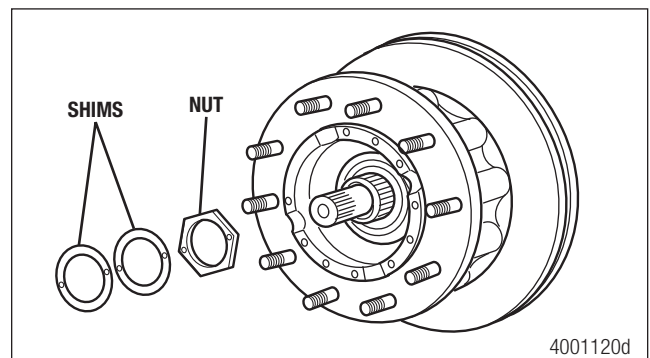
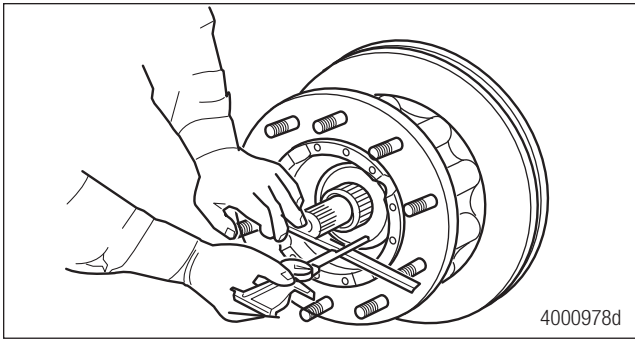
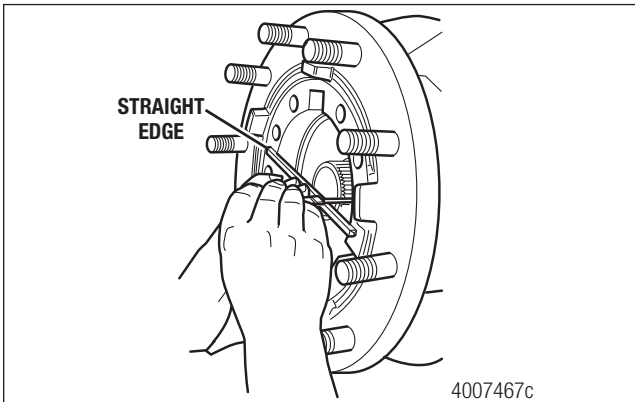

Figure 13.20
Figure 13.21
Figure 13.22
6. Install the appropriate shims to achieve the 2.168-2.173" (55.066-55.194 mm) dimension from the shim pack to the face of the hub. Place a straight edge across the hub and measure using a depth gauge micrometer. The depth measurement reading should be reduced by the thickness of the straight edge. Figure 13.20, Figure 13.21 and Figure 13.22.